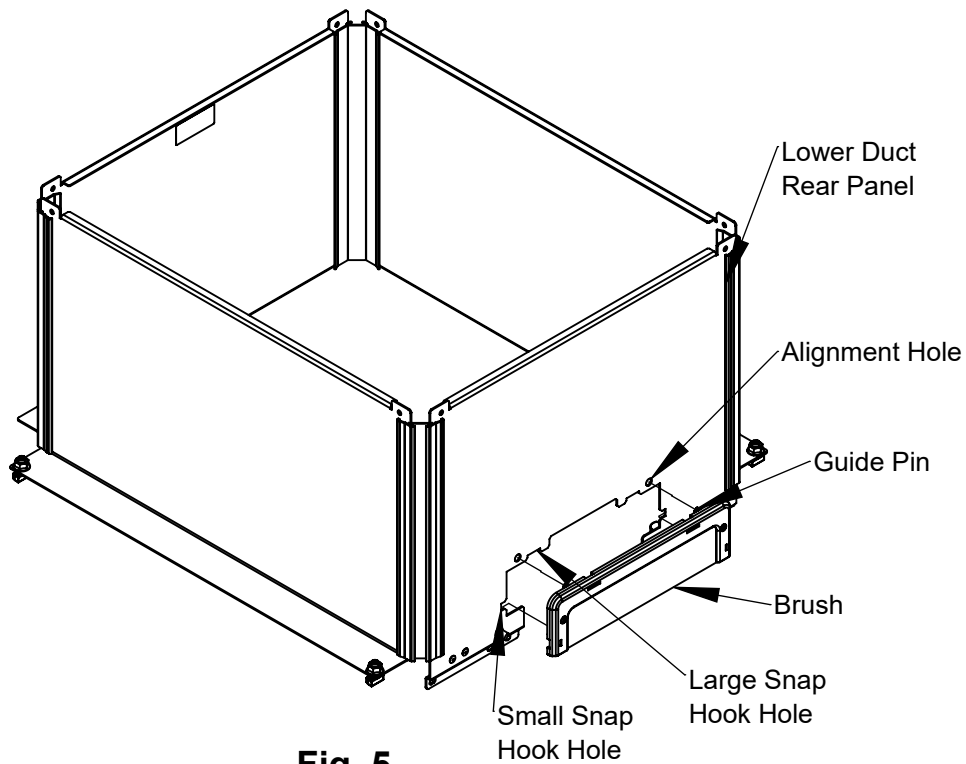

Fig. 5
5. Position brush assembly with its guide pins onto the knockout opening using alignment holes (Fig. 5).